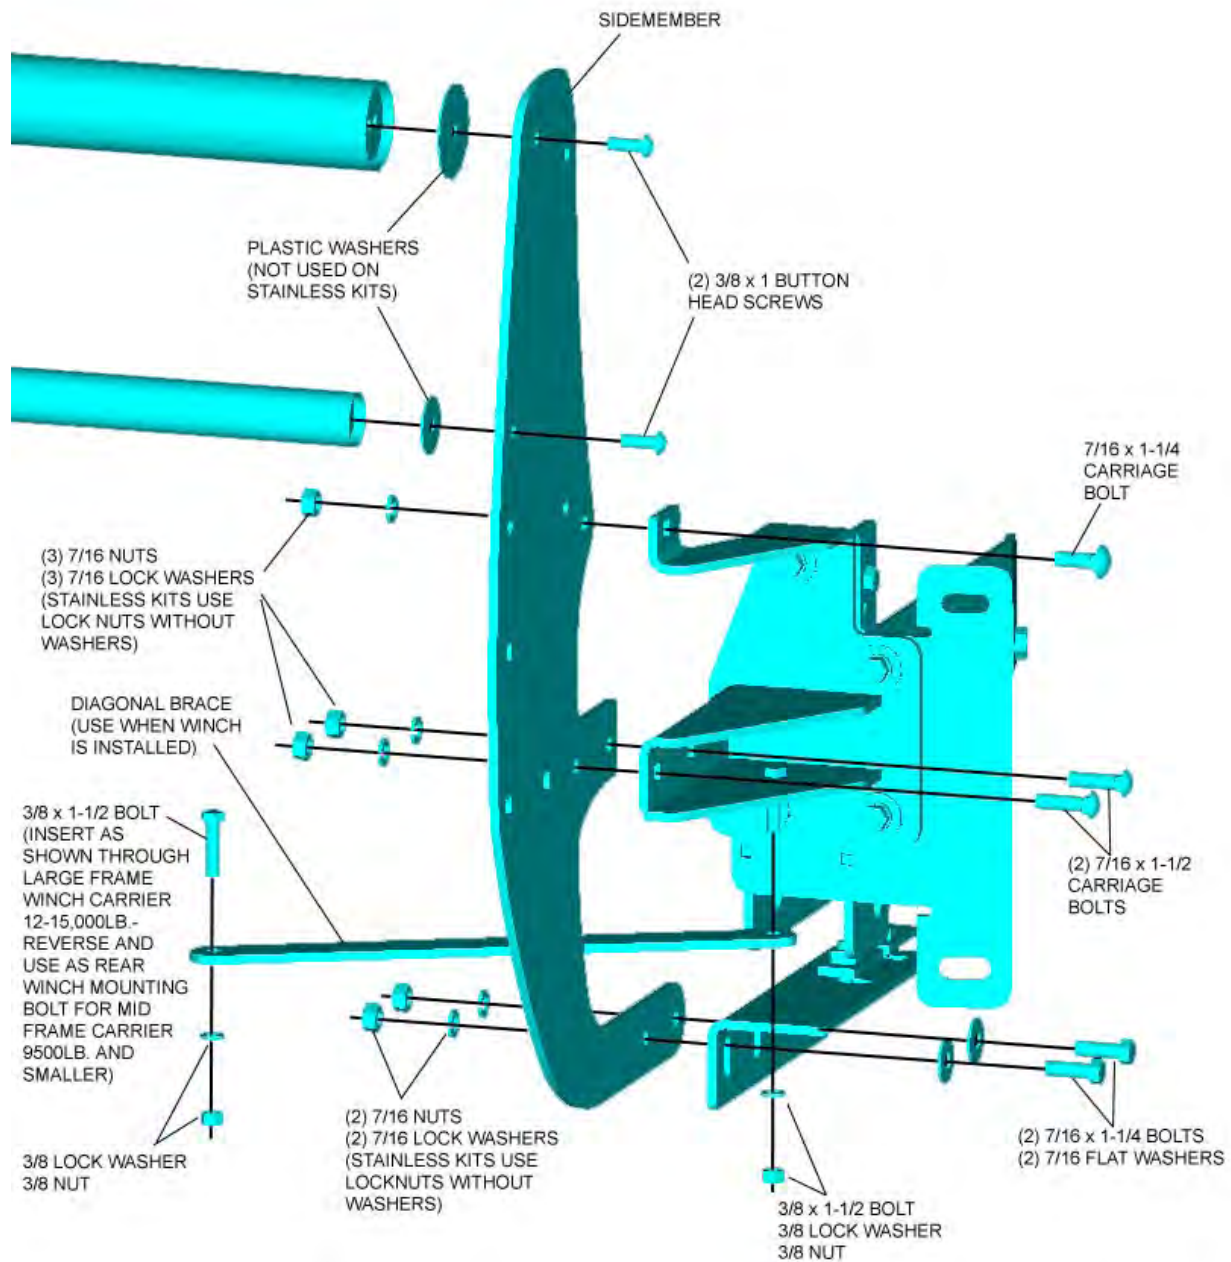

Figure 9 Side Member, Diagonal Brace and Center Tubes
17. If the Trans4mer is being installed as a Grille Guard and a winch is not being mounted at this time, skip step 18 and install the tubes in any desired position as shown in **Figure 9**. If a winch is to be installed proceed with step 19.
22. Attach the Side Members to the insides of the Side Member Brackets. Use 7/16 x 1-1/4" carriage bolts, lock washers and nuts (use nylon lock nuts without washers for Stainless Side Members). Insert two (2) 7/16 x 1-1/4" bolts and flat washers through each Lower Brace and Side Member. Install 7/16" lock washers and nuts (use nylon lock nuts without washers for Stainless Side Members). See **Figure 9**